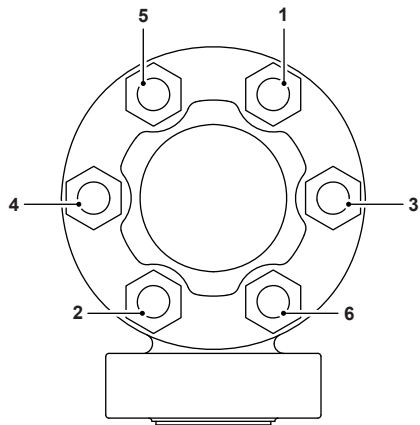

Fig. 7.2
- Tighten the cover studs (9) to the recommended torque (see Table 1).
- Ensure top cover (2) is assembled before assembling cover nuts (10).
- Finger tighten the six cover nuts (10) with the grade markings uppermost (if applicable), ensuring anti-seize compound (ROCOL SA-610) is applied liberally and completely to the cover nuts (10), including all mating threads and nut bearing/contact surfaces, ensuring full coverage over the entire engaged thread length in accordance with ASME PCC-1 guidance. Care shall be taken to achieve a uniform coating.
- Tighten the cover nuts (10) in a diagonal (star) pattern i.e. 1-2-3-4-5-6 as shown in Figure 7.2, using multiple passes in accordance with ASME PCC-1.
- Tighten the cover nuts (10) to the recommended torque value (see Table 1).